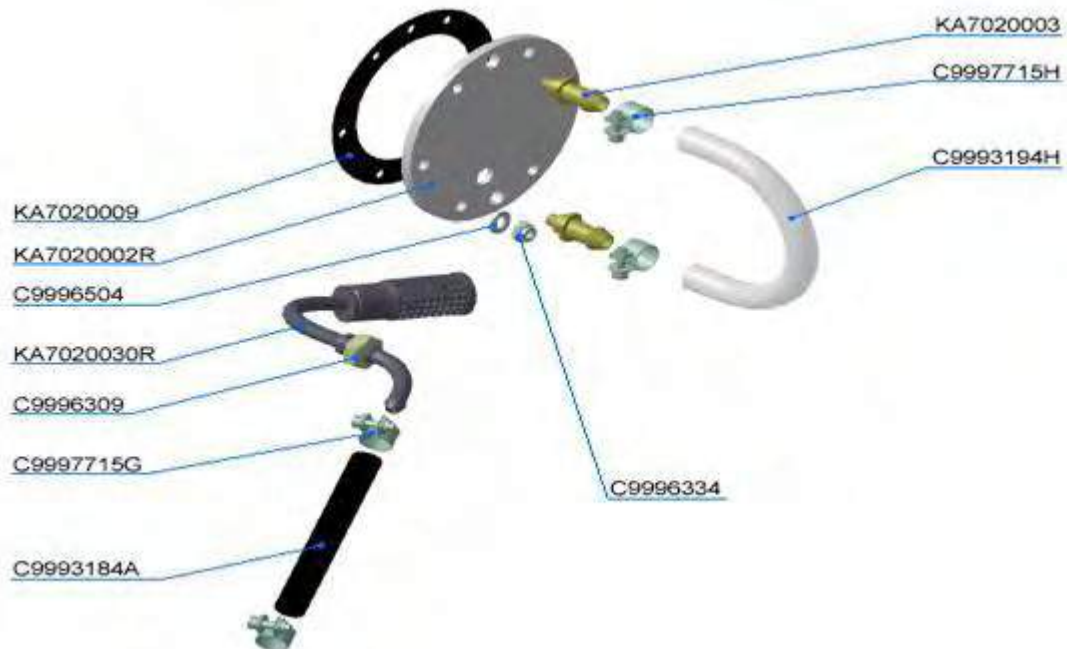

Fig. 2
The fuel tank is closed by the access panel from the cabin side KA7020002R (L) (Fig. 2). Inspect the access panel and fuel level indicator joints for leaks before every flight. If found - tighten the screws on the clamps or nuts and the access panel.